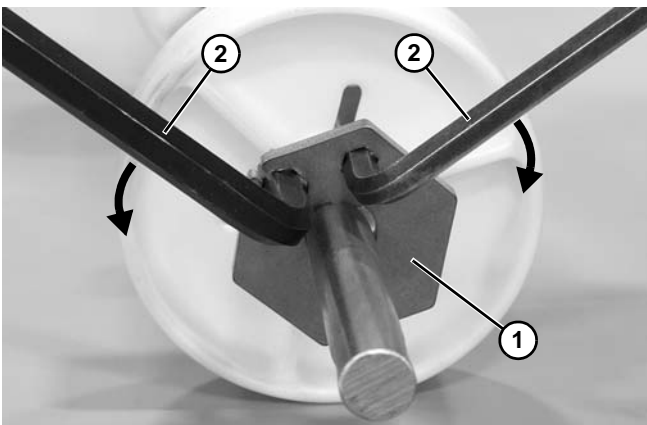

Figure 84
- c. To lock the retainer plate (Figure 84, item 1) in place, move the wrenches (Figure 84, item 2) away from each other.